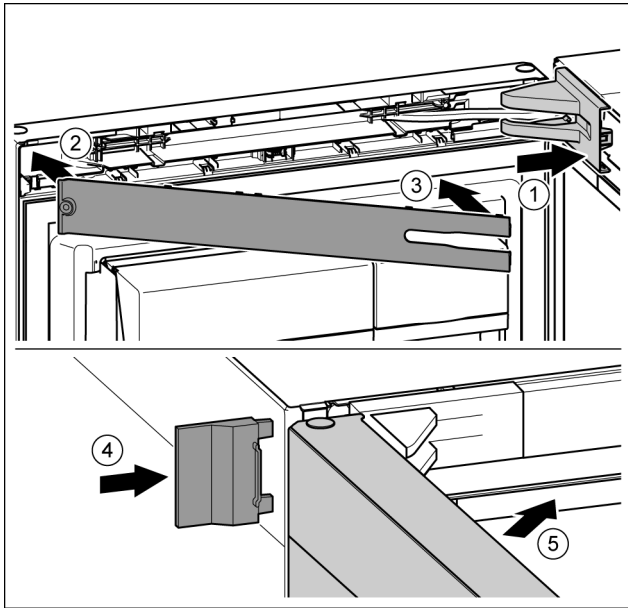

Fig. 23
- ▶ Position the bearing bracket and engage. If necessary push apart carefully. *Fig. 23 (1)*
- ▶ Position the panel. *Fig. 23 (2)*
- ▶ Swing in the panel and click into place. *Fig. 23 (3)*
- ▶ Slide on the external cover. *Fig. 23 (4)*
- ▶ Close the upper door. *Fig. 23 (5)*